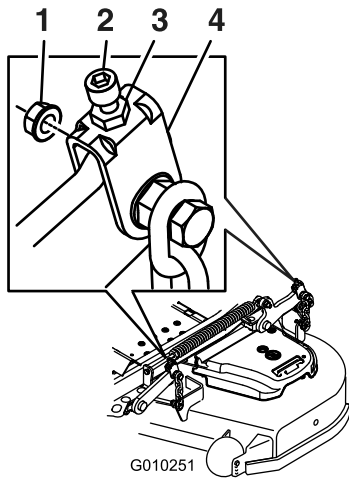

**Figure 86**
9. On both sides of the deck, measure from the level surface to the front tip of the blade (Position A). The measurement should read 7.6 mm (3 inches) (Figure 86).
- On both sides of the deck, measure from the level surface to the back tip of the blade (Position B). The measurement should read 8.3 cm (3 1/4 inches) (Figure 86).